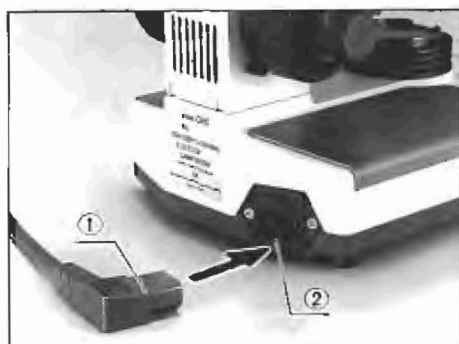

Fig. 11
- 1) Plug the power cord (1) into the receptacle (2) on the microscope base. (Fig. 11)